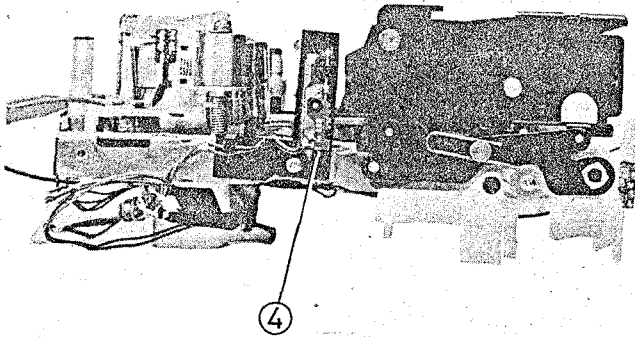

Fig. 2-64 Supply End Sensor Removal
4. Release one (1) tab. (See Fig. 2-64)